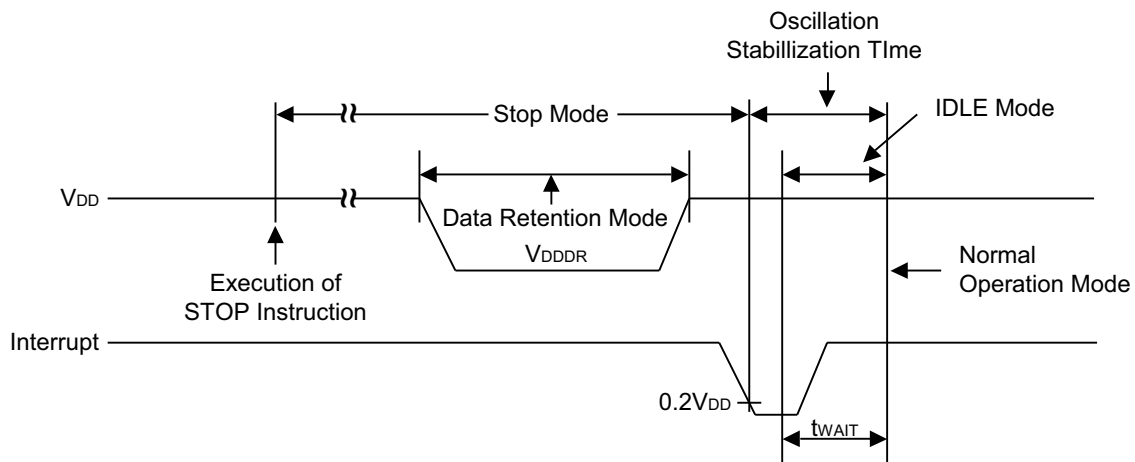

Figure 123. Stop Mode Release Timing Initiated by Interrupts
► **Note:** In Figure 123, t_{WAIT} is the same as $16 \times 1 / f_{BT}$; f_{BT} = the basic timer clock selection.